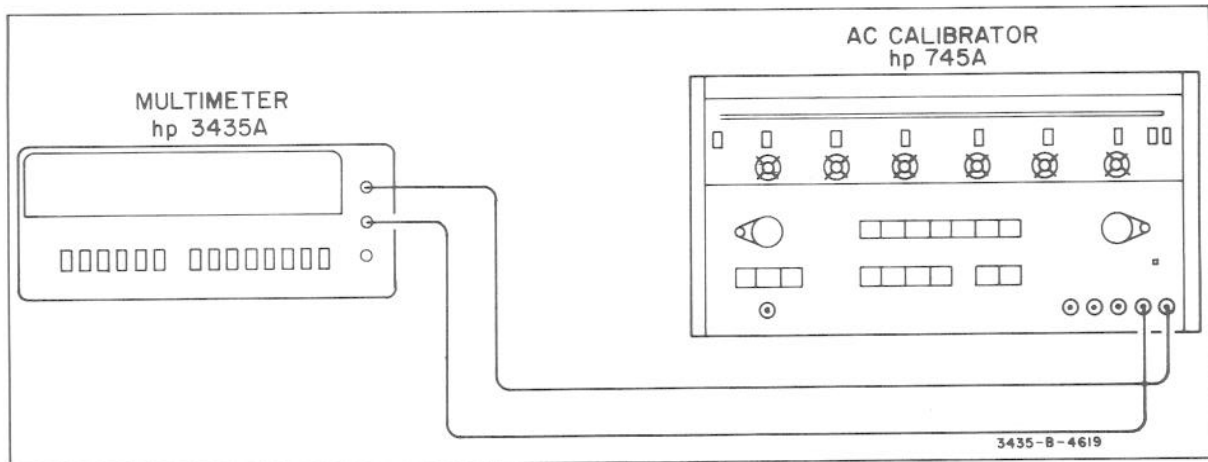

Figure 5-9. AC Gain Adjustment.
- Connect the 745A to the Multimeter as shown in Figure 5-9.
c. Connect the 745A to the Multimeter as shown in Figure 5-9.